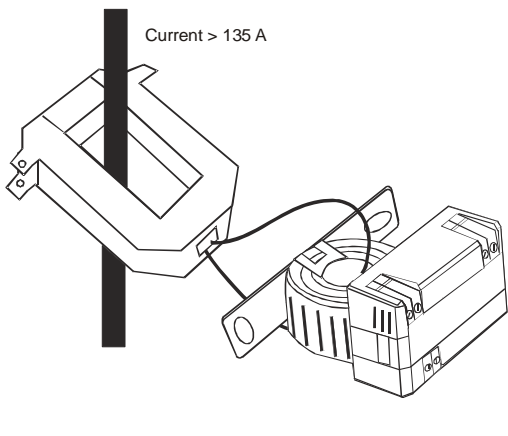

Figure 4: CSD with CT Transformer
Use a 5 A Current Transformer (CT) to reduce the current passing through the CSD as shown in Figure 4. Run the current transformer secondary wire through the sensing hole. Terminate the two secondary wires of the 5 A current transformer to each other, and then install the 5 A current transformer on the conductor being monitored.